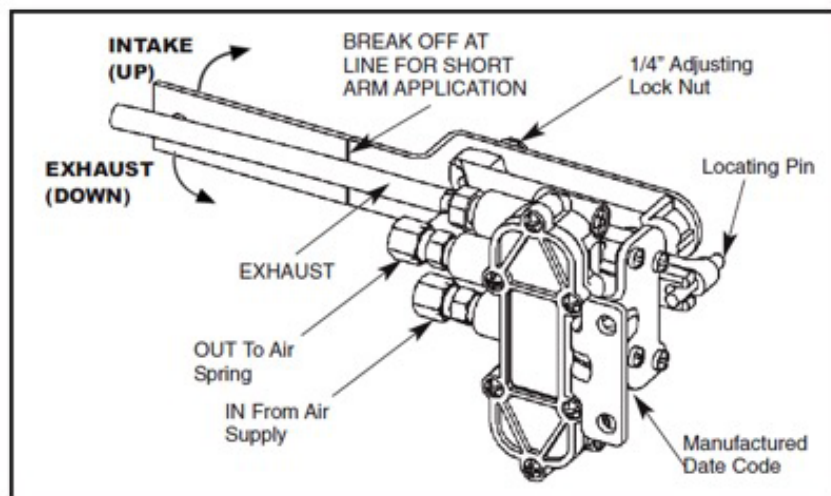

Figure 2. Features of Type CR HCV
5. a) Connect air line from air springs to the center port (Figure 2)
b) Connect air line from the air supply to the bottom port (Figure 2)
c) The top port is ALWAYS the exhaust port. Install the supplied exhaust fitting to the top port and slip the exhaust hose over the exhaust fitting. (Figure 2)